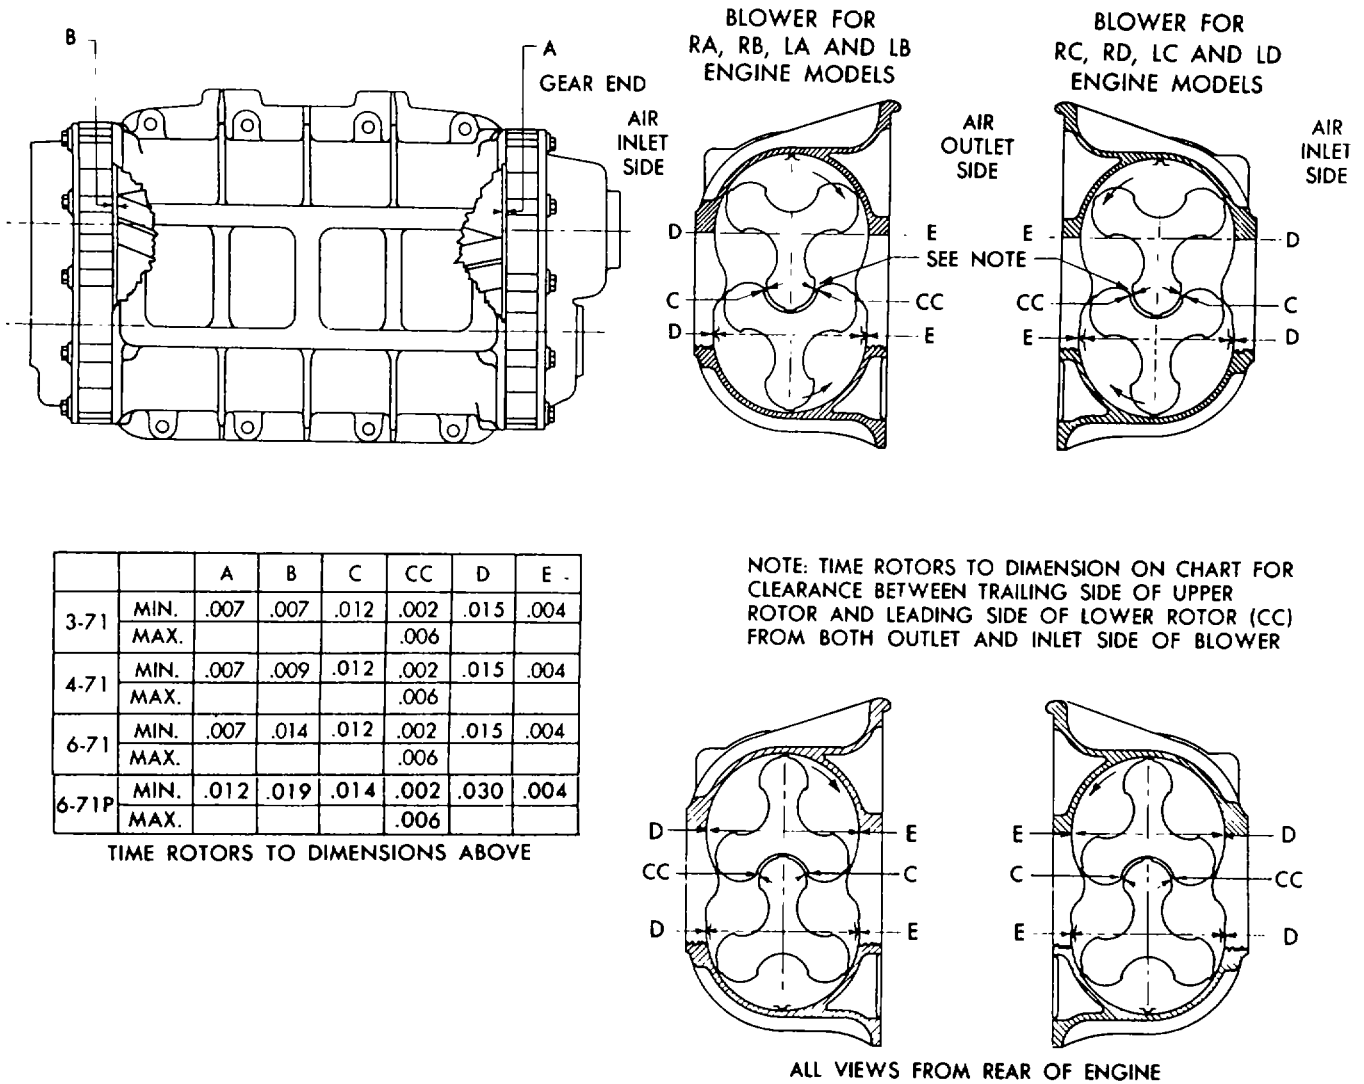

Figure 6-10. Blower Rotor Clearances.
(6) Make a preliminary check of rotor-to-end plate and rotor-to-housing clearances at this time with a feeler gage. Refer to figure 6-10 for minimum blower clearances.
(7) Install blower rotor timing gears on a standard blower or a smaller diameter rotor blower as follows: one serration is omitted on drive end of each blower rotor shaft and a corresponding serration is omitted in each gear. Assemble gears on rotor shafts with serrations in alignment.